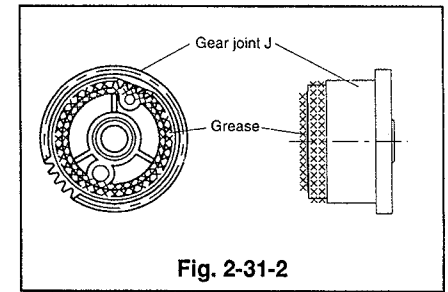

Fig. 2-31-2
- ① Apply grease (PG-641)[859D055O30] to the new gear joint J on the whole circumference of the small cogwheel as shown in Fig. 2-31-2.